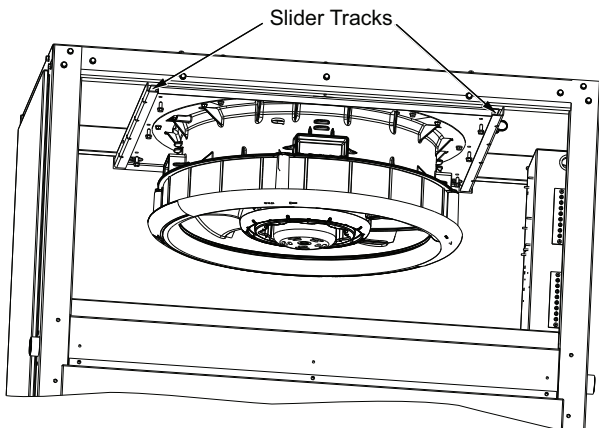

Fig. 32 — Lower Fan Deck Assembly to Slider Tracks
4. Allow the fan deck to drop into the slider tracks (careful not to pinch body parts when the fan drops) See Fig. 32.